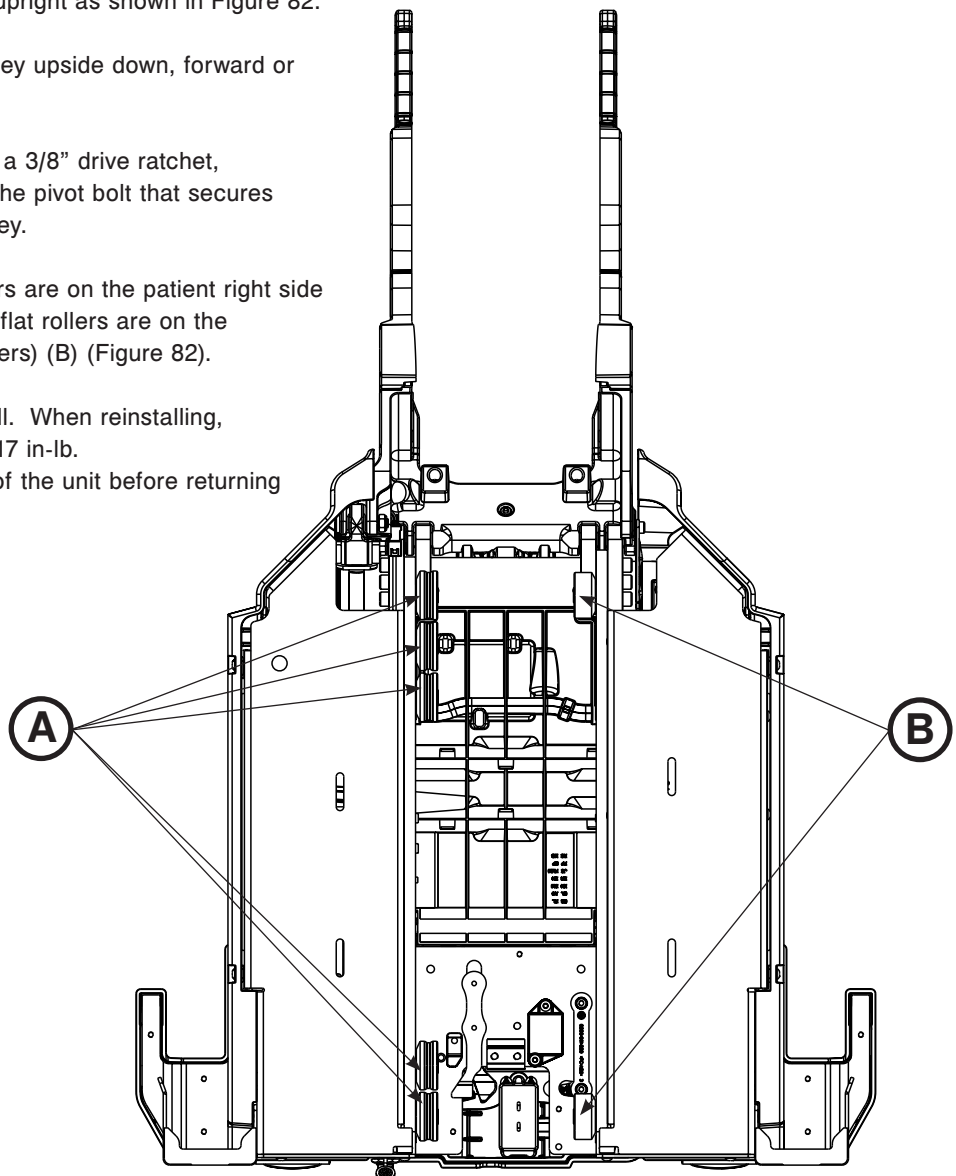

Figure 82
2. Carefully set the trolley upright as shown in Figure 82.
Note: The V-guide rollers are on the patient right side (five rollers) (A) and the flat rollers are on the patient left side (two rollers) (B) (Figure 82).